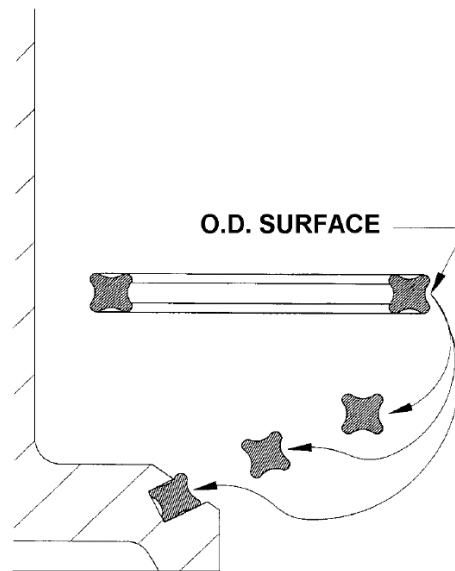

Figure 2
- 7.3 Insert the quad seal into the stem. See Figure 2.